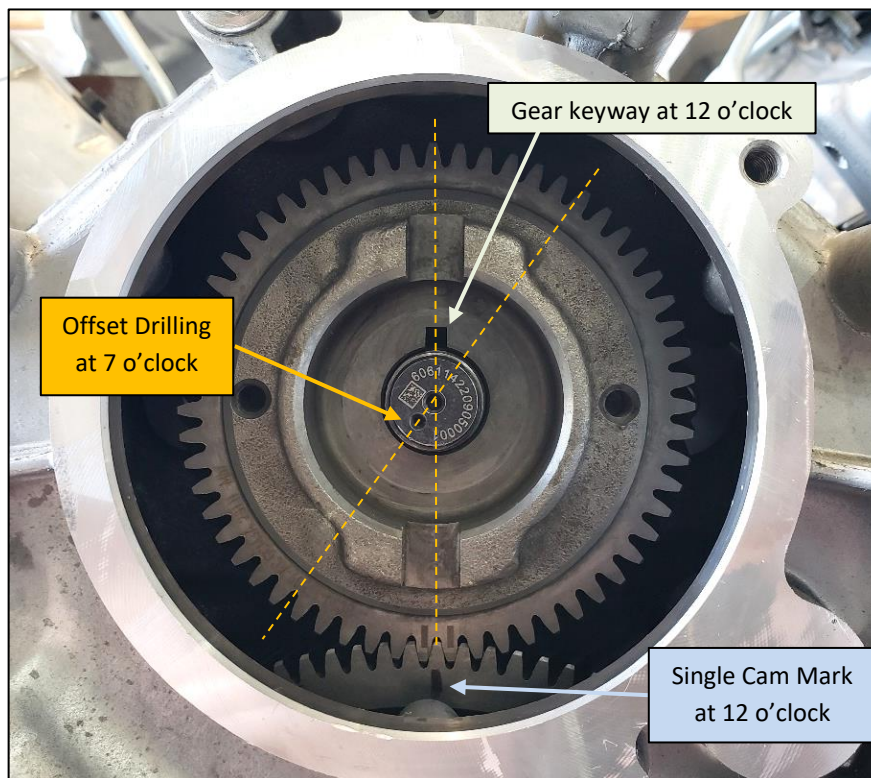

Figure 27: Fuel Pump Timing on Engine – Offset Hole Location
8. **Fuel Pump Timing:** Confirm that the DCR pump shaft did not rotate during assembly by visually checking that the offset drilling is pointing towards 7 o'clock as shown in Figure 27.